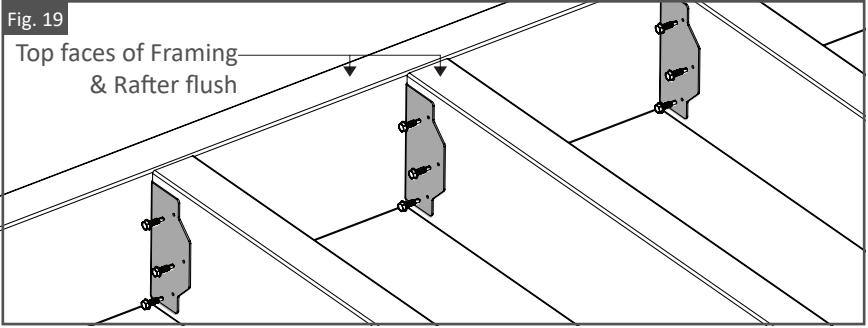

Fig. 20
- Alternatively, the F-50 Bracket can be flipped and installed with both faces of the bracket exposed and facing the away from the Rafter. As shown in Fig. 20.